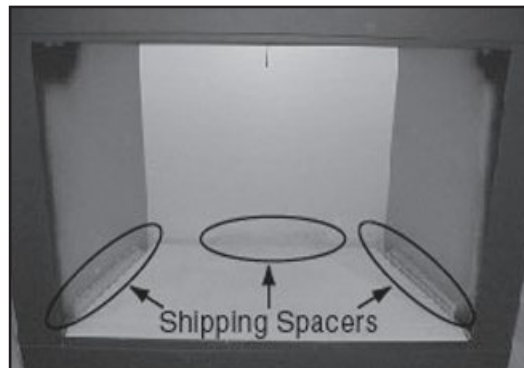
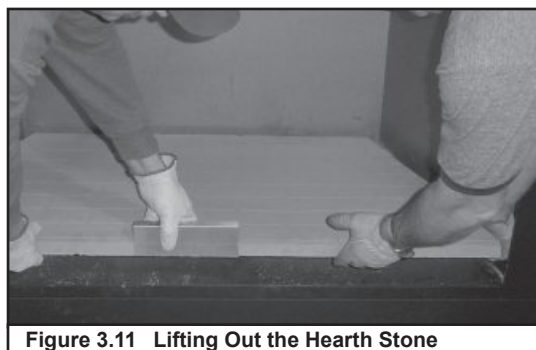

Figure 3.10 Shipping Spacers
Figure 3.11 Lifting Out the Hearth Stone
- Remove hearth stone by removing three corrugated shipping spacers (Figure 3.10). Lift hearth stone out of fireplace. See Figure 3.11.